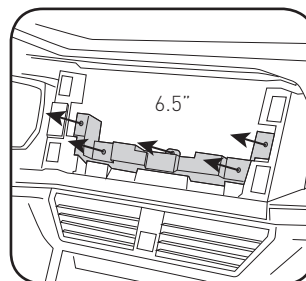

Fig. 1.8
8. **[6.5 inch radio]** Remove five (5) T20 Torx screws securing the sub dash bracket in place and remove. (Fig. 1.8)